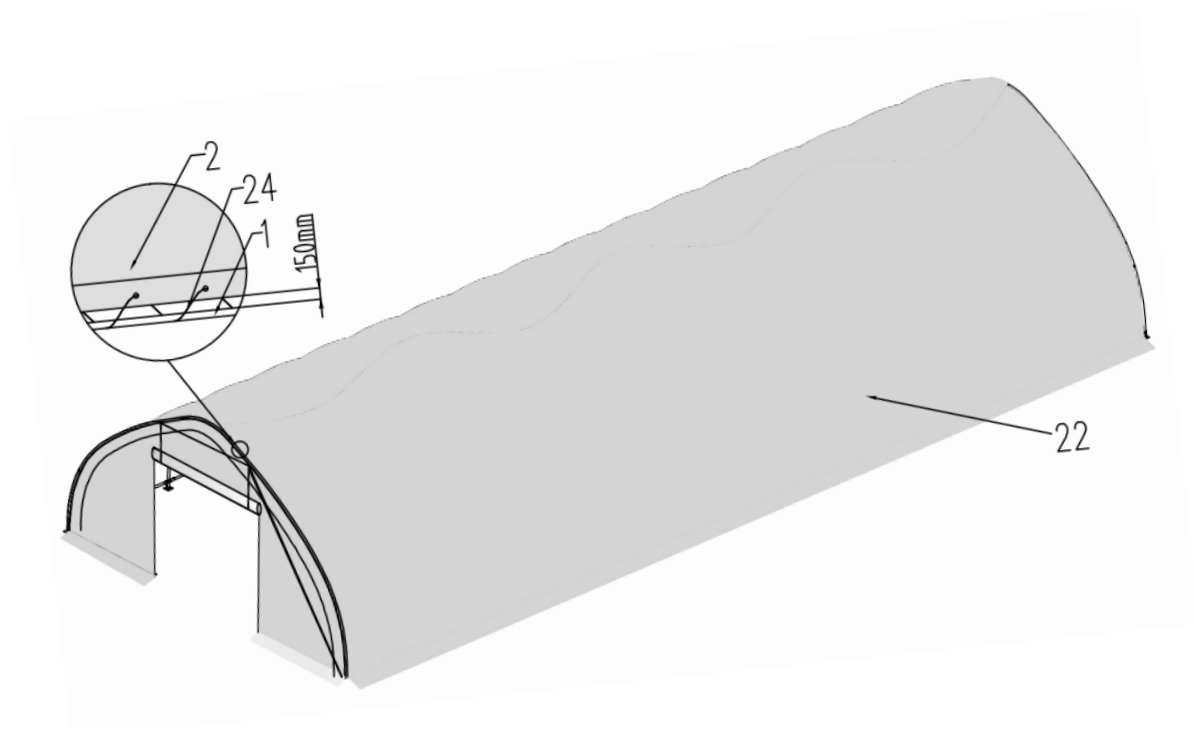

Figure 12
- Pull and stretch the cover enough only to take wrinkles out. Repeat for the rear truss. Do not over stretch as it could rip off the grommets (figure 12).